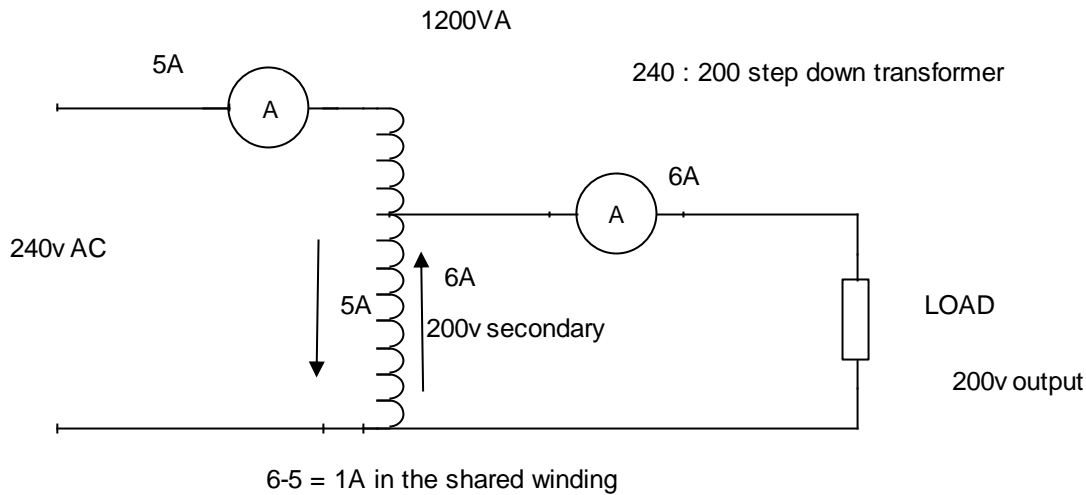

Figure 5 - Currents in an autotransformer.
6. If the same transformer was connected as a step-down autotransformer the full load line current and output current would be the same as before, but the section of the winding shared by the primary and secondary would only have to carry the difference between the input current and the output current, because the primary and secondary voltages of a transformer are 180 degrees out of phase. See Figure 5